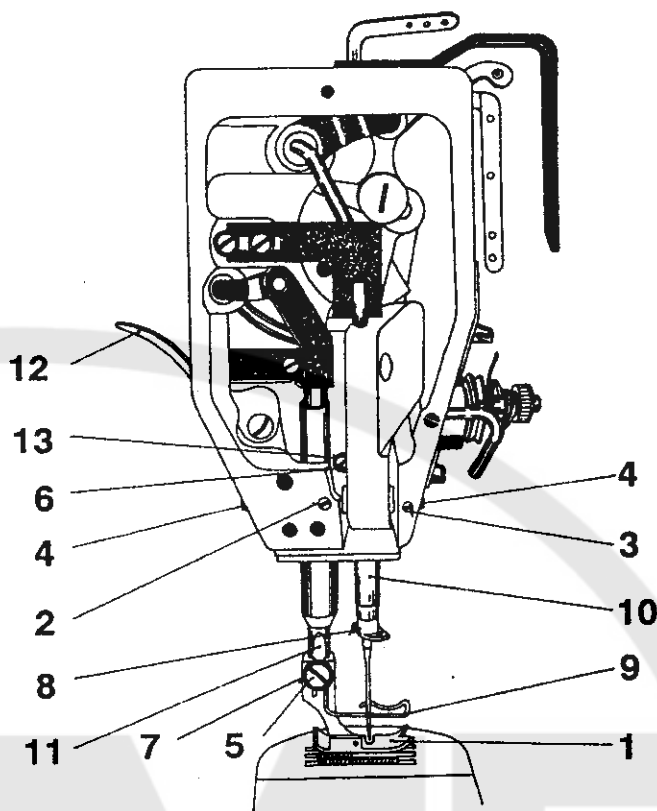

Figure 4
6. To lift the presser foot (Fig. 4)
8. To insert the needle (Fig. 4)
8. To adjust in height the needle bar (Fig. 4)
14. To exchange the presser foot (Fig. 4)
16. To adjust the needle punches longitudinally into the centre of the slot of the throat plate (Fig. 4)